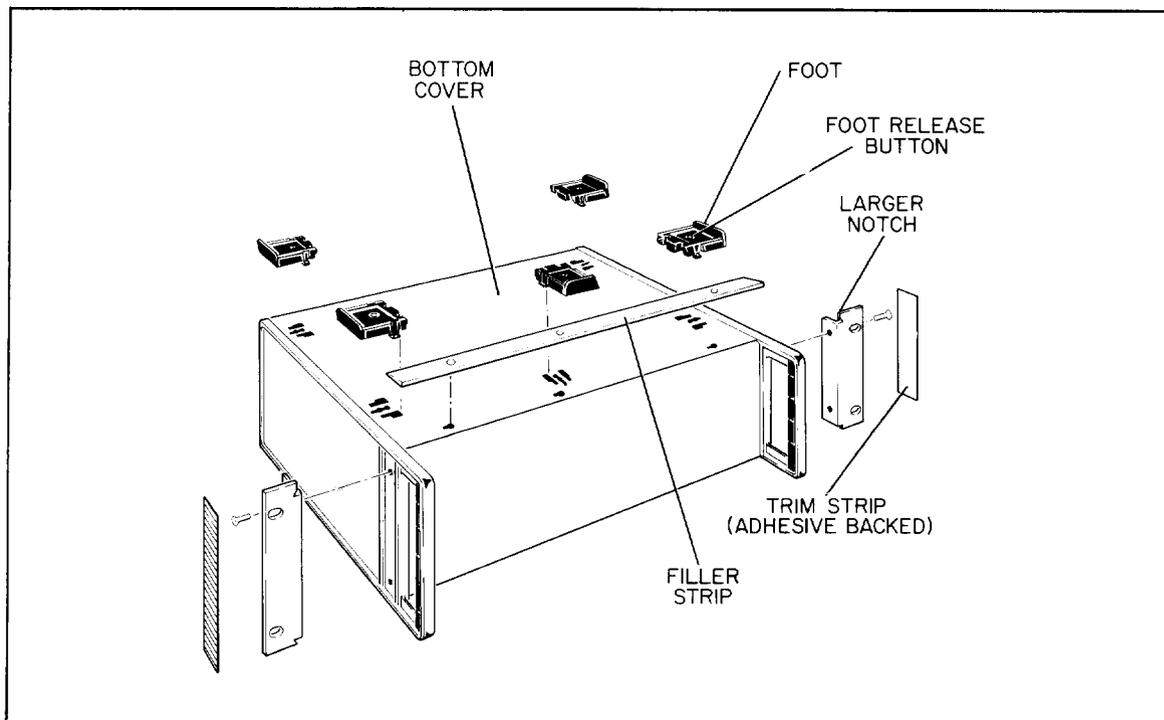

Figure 2-1. Conversion for Rack Mounting
2-15. The 5087A is shipped from the factory ready to operate as a bench instrument. Parts needed to rack mount the instrument are available as an accessory. To convert to rack mounting, refer to Figure 2-1 and do the following:
- d. Attach mounting brackets to sides (larger corner notch toward bottom of instrument, see Figure 2-1). The instrument is now ready to mount in standard 19-inch rack.